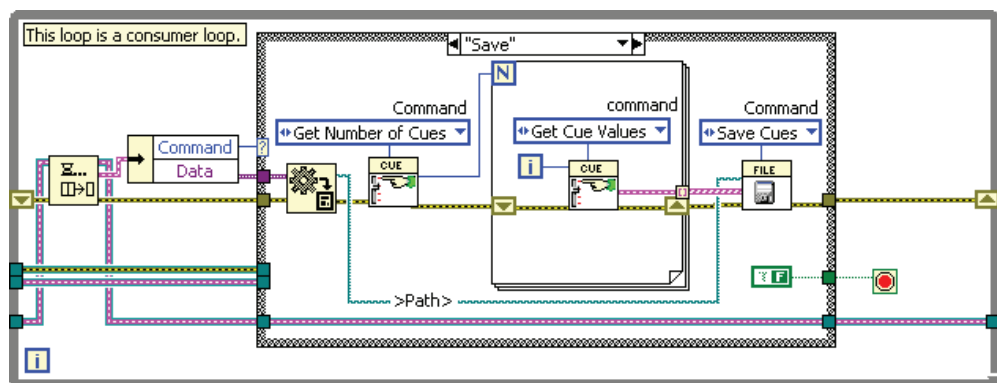

Figure 7-25. Consumer Save Case
5. Modify the Save Consumer case to perform the Save function as shown in Figure 7-25. Use the following items: